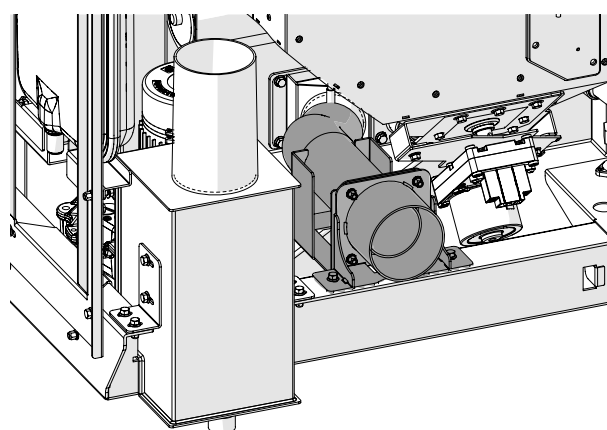

Fig. 44
- Combustion air ducting kit (**Fig. 44**).